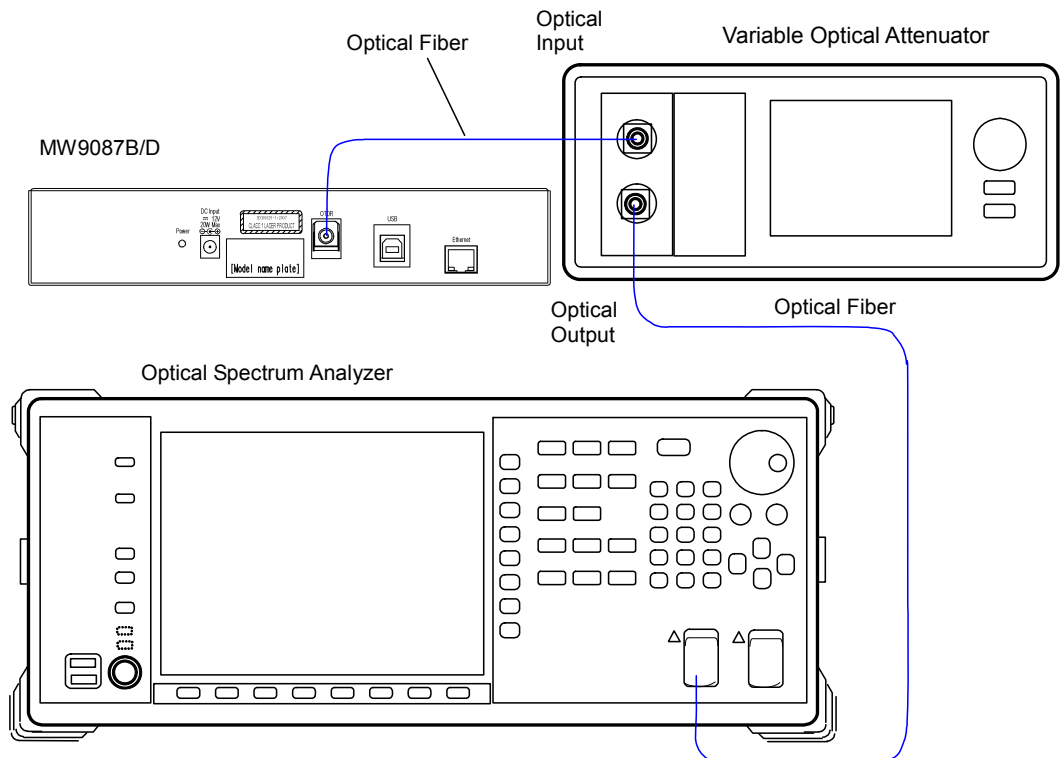

Figure 5.1.2-1 Connection Figure for Wavelength Measurement
1. Setup and connect as shown in Figure 5.1.2-1.